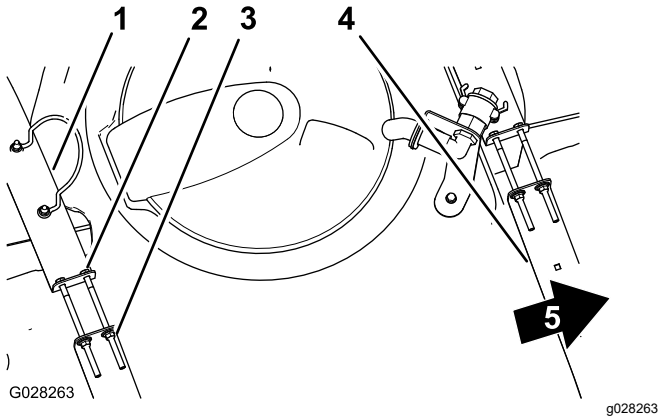

Figure 20
2. Check to see if there is any movement between the tank straps and the tank (Figure 20).
3. If the tank straps fit loose to the tank, tighten the flanged locknuts and bolts at the top of straps until the straps are flush with the surface of the tank (Figure 20).